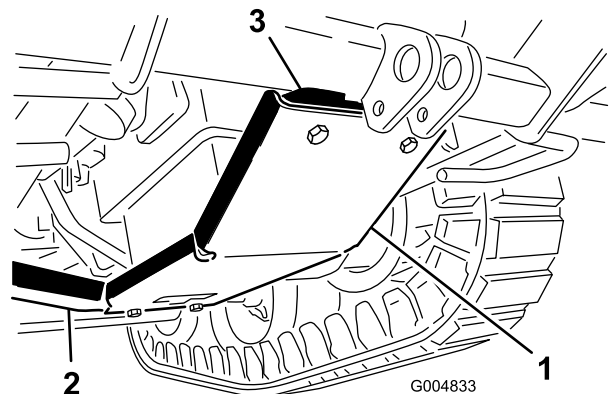

Figure 31
2. Install the skid plate (Figure 31) to the frame below the engine as follow:
- A. Mount the front of the skid plate to the skid mounting plate with 2 flange-head bolts (3/8 x 1-3/4 inches) and flange nuts (3/8 inch) (Figure 31).
- B. Mount the rear of the skid plate to the frame cross member with 2 bolts (3/8 x 1 inch) and flange nuts (3/8 inch) (Figure 31). Install the rear bolts from the top.